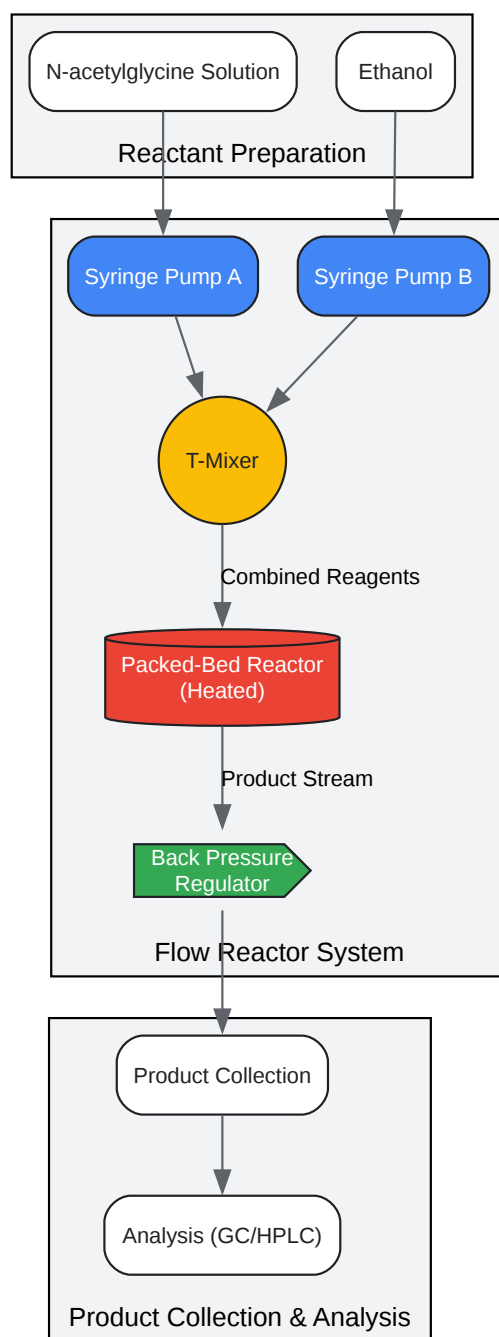

Figure 1: Experimental Workflow for Continuous Flow Synthesis of Ethyl Acetylglycinate
Caption: Figure 1: Experimental Workflow for Continuous Flow Synthesis of **Ethyl Acetylglycinate**.
- **System Setup:** The syringe pumps, T-mixer, packed column, column heater, and back pressure regulator were assembled as shown in Figure 1. The system was primed with ethanol.